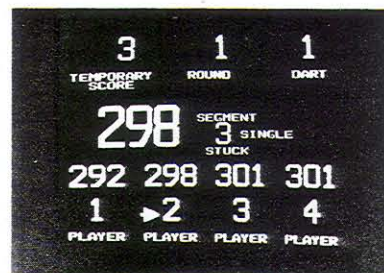

Figure 2. Stuck segment indicator display
- Attach top assembly into base assembly as shown in Fig. 2 using four 1/4-20 carriage bolts and nuts and two 1/4" hex cap bolts as shown in Fig. 3A.